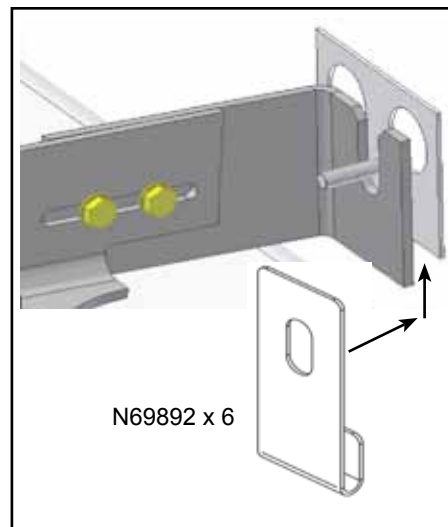

Figure 7 - Installation of the Safety Support
1.6. Install the safety support by pushing lightly on the removable roof. See Figure 7.